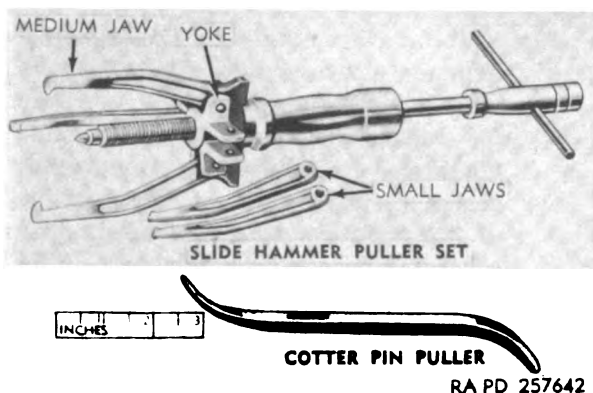

Figure 172. Slide hammer puller set and cotter pin puller.
hammer puller set (fig. 172) is a universal-type puller equipped with a two- and three-way yoke, and three medium jaws for outside pulls and two small jaws for inside pulling. The small jaws can be inserted through a $\frac{1}{2}$ -inch opening. The capacity of the medium jaws is $6\frac{1}{4}$ inches. The slide hammer puller is also equipped with a locking feature which holds the jaws open or locks them on the work.
- (11) *Cotter pin puller.* A cotter pin puller (fig. 172) is used to install or to remove cotter pins. It is an S-shaped tool, 7 inches long, one end used to insert through the cotter pins for extracting, the other end used for spreading the cotter pin. The shank is beveled square for easy handling and firm grip. This type is 7 inches long.
b. Slide Hammer Puller. When using a slide hammer puller (fig. 172), lock the jaws with the locking feature and slide the hammer handle up the shaft in the direction of the pull. The combination yoke provided with this puller enables you to pull a variety of items by the different combinations and settings of jaws.